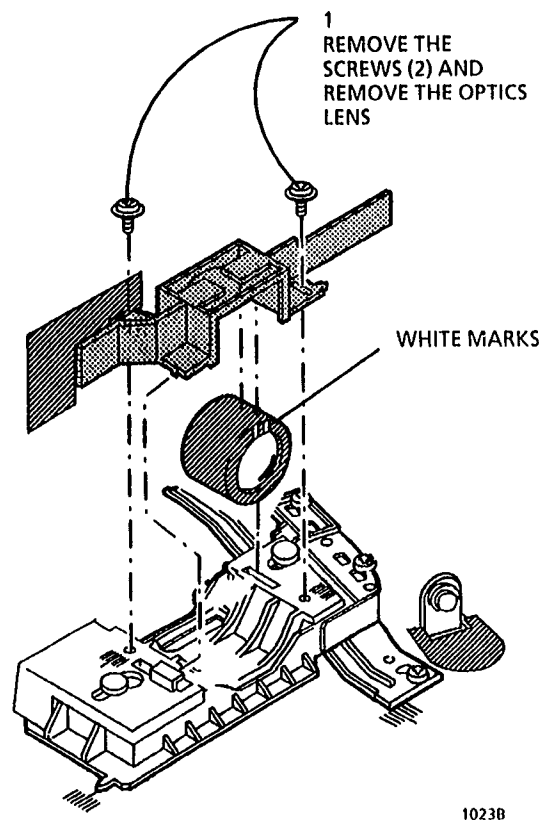

Figure 2. Removing the Optics Lens
4. (Figure 2): Remove the Optics Lens.